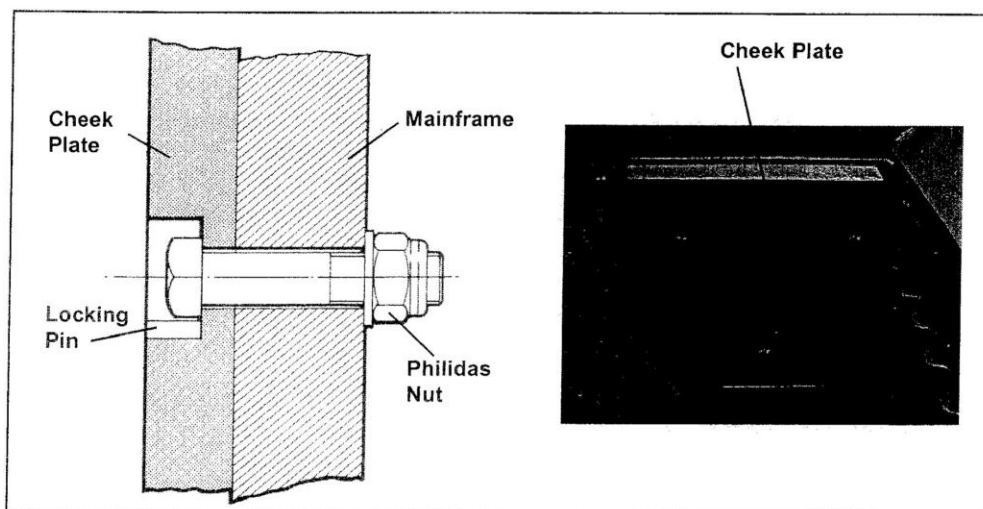

Figure 9m Cheek Plate Fixing and Bolt Assembly
4. Remove the upper fixing nut, bolt and washer from the cheek plate and machine frame and loosen the remaining fixing bolt(s) - (Figure 9m).